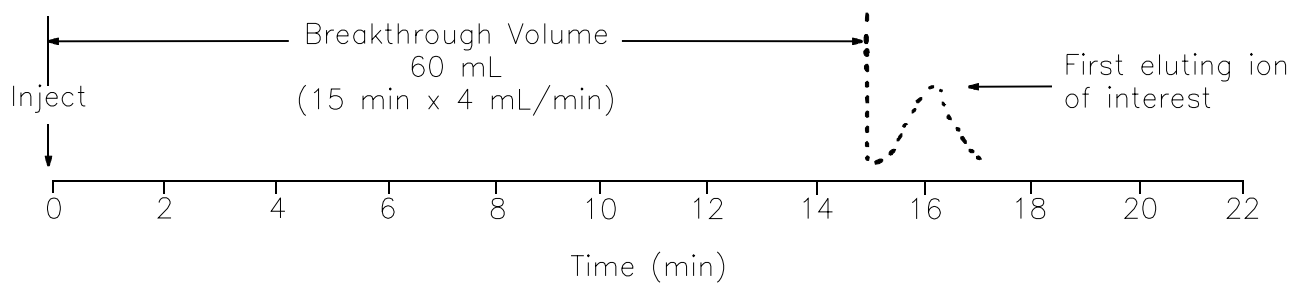

Figure 6
- E. Record the resulting chromatogram and calculate the breakthrough volume, as shown in Figure 6.